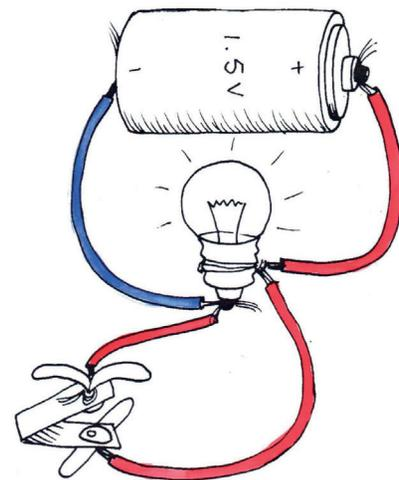

Figure 9
7. Look at Figure 9. The bulb is glowing, but if you press the switch, the bulb stops glowing. Explain the problem, and draw a picture to show how you would connect the circuit in the correct way. The bulb should glow only when you press the switch.